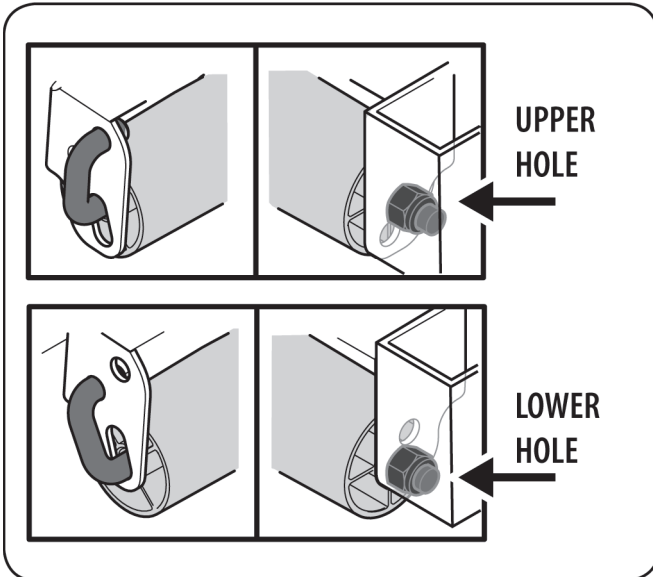

Figure 1-12
4. The roller can be adjusted to two different heights. To change the height of the striper kit, remove the Locknut and slide the pin out far enough to move it into the desired height setting on the right side of the bracket. Secure the hooked end of the pin and install the Locknut to lock into position. See Figure 1-12.